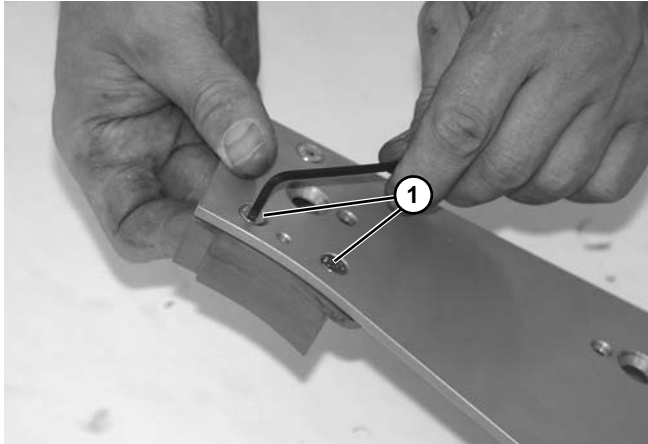

Figure 116
2. Remove two socket head screws (**Figure 116, item 1**).